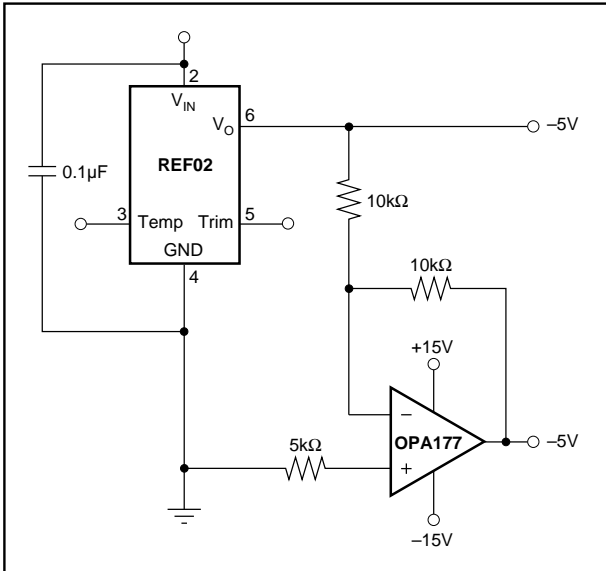

FIGURE 2. $\pm 5V$ Precision Reference.
(7) N is the maximum number of terminal positions.
(8) Corner leads (1, 4, 5, and 8) may be configured as shown in Figure 2.
(9) For automatic insertion, any raised irregularity on the top surface (step, mesa, etc.) shall be symmetrical about the lateral and longitudinal package center-lines.